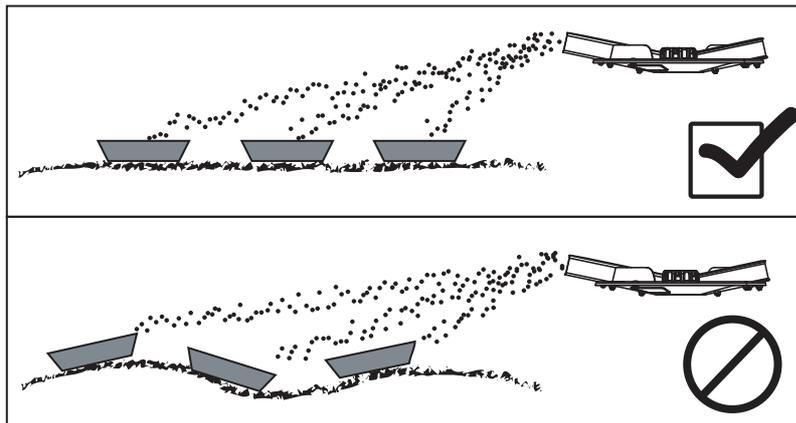

Figure 8.28: Layout of the trays
- Make sure that the trays are placed on level ground. trays set at an angle can cause measuring errors (figure 8.28).